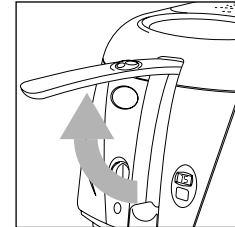

fig. 1
- Raise the basket to the highest position by pulling the special handle upwards (fig.1).